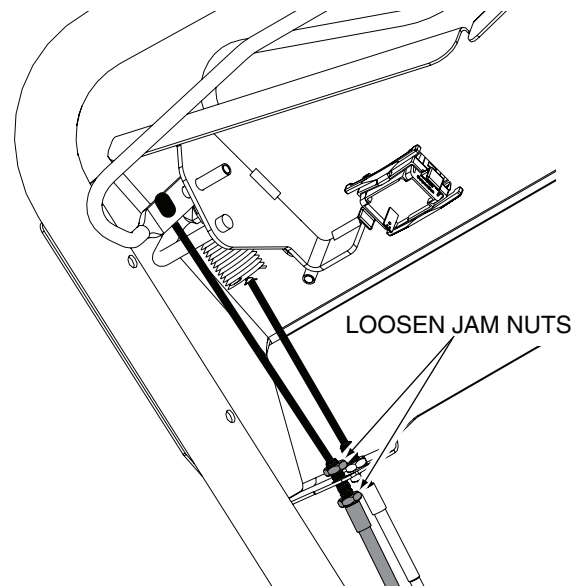

Figure 6-8. Self-Propel Drive Cable Jam Nuts
7. Loosen the jam nuts securing the self-propel drive cable to the handle bar bracket. See Figure 6-8.